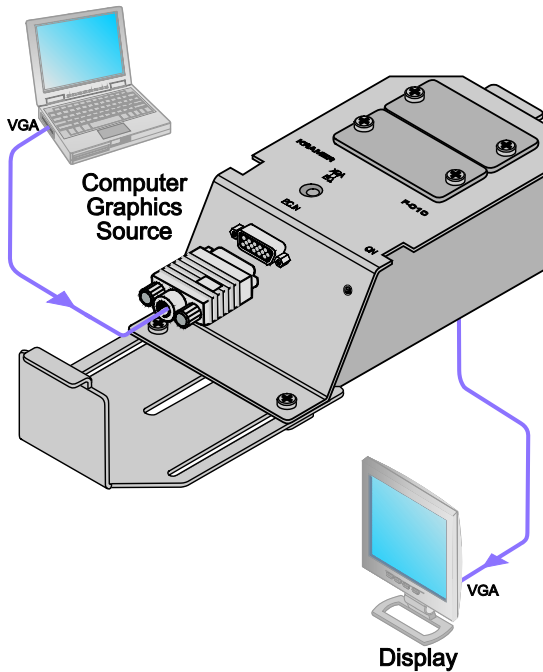

Figure 6: Connecting the F-010 XGA Line Amplifier Mounting Box
1. Connect the XGA source (for example, a laptop) to the PC IN 15-pin HD (F) connector.
2. Connect the appropriate connectors to the inserts (not illustrated in Figure 6).